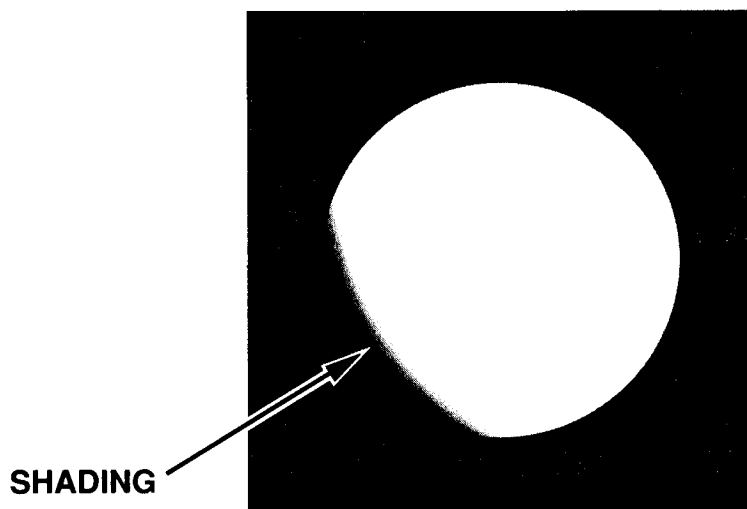

Figure 3-1. Shading.
a. Shading. Each monocular should present a perfect circle. If shading is present, you will not see a fully circular image (fig. 3-1). Shading always begins on the edge and moves inward. If shading is present, the image intensifier must be replaced by DS.